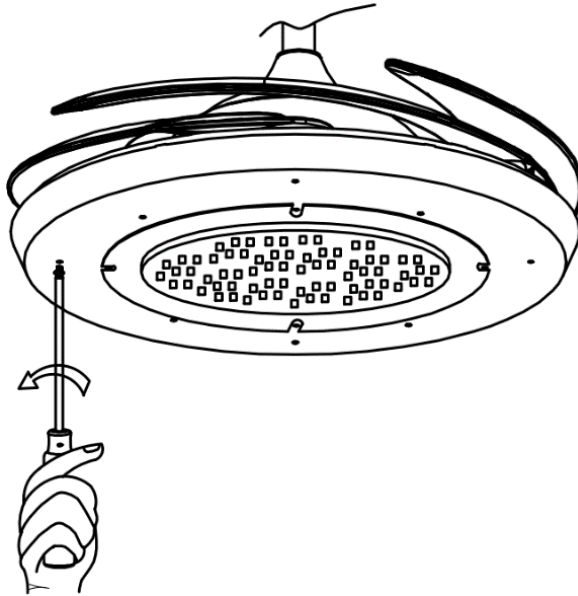

Fig. 9
1. Loosen the 8 pcs screws from the light kit bracket plate. (Fig. 9)